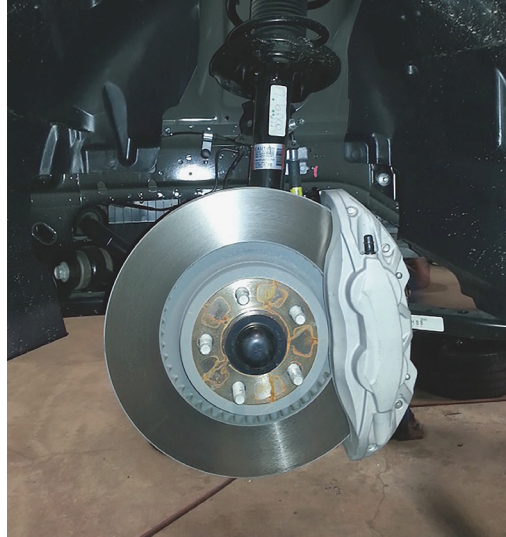

fig. 2
2. Remove the front wheels (Fig. 2).